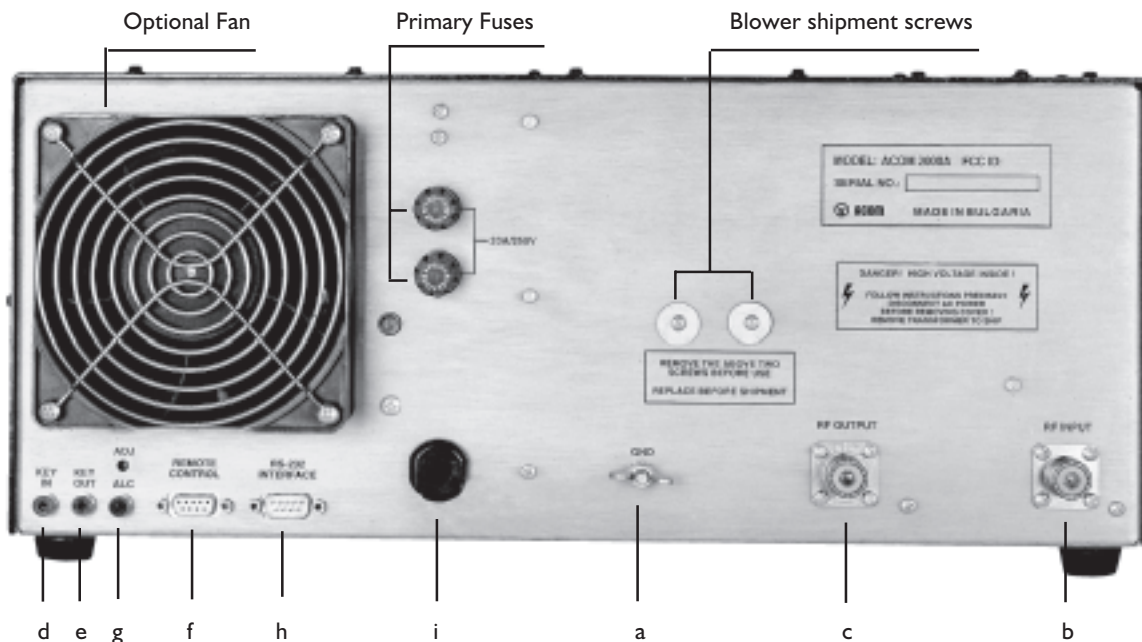

Fig.2-3 Connections
Replace the cover and carefully reinstall all screws. Look at the rear panel and follow the instruction: "Remove the above two screws before use. Replace before shipment"(Fig.2.3).
a) First connect the ground stud of the amplifier (on the rear panel, marked GND) to the station's grounding system (Fig.2-3).
This fan is not necessary in SSB and CW modes, nor in continuous carrier modes (RTTY, SSTV etc.) with carrier down times of maximum 15 minutes and a subsequent pause of 3 minutes. For higher duties the fan is recommended. The auxiliary fan (119x119mm) is supplied as an option with a set of 8 screws, nuts and washers. It may be mounted by the manufacturer on request (Fig. 2.3). Contact your dealer or see the TECHNICAL SUPPLEMENT for details.